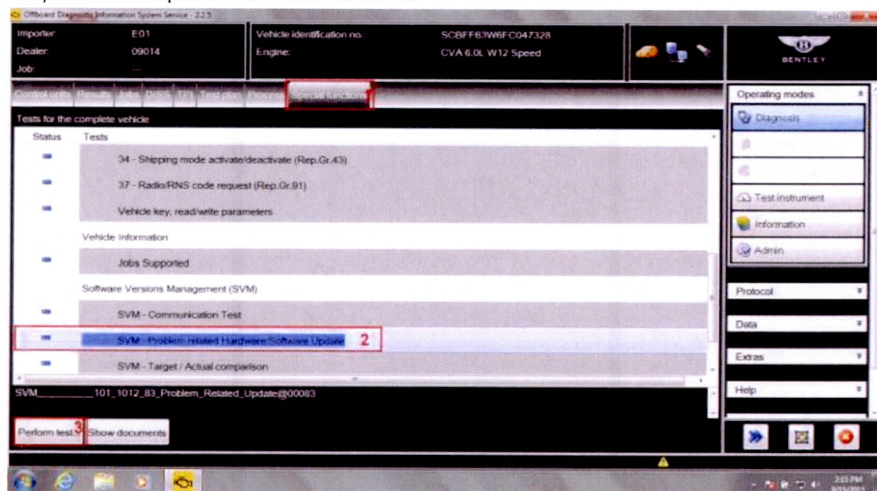

Figure 1
8. Select *Special functions* (1), Select *SVM – Problem related Hardware/Software Update* (2), Select *Perform test* (3) (see Figure 1)